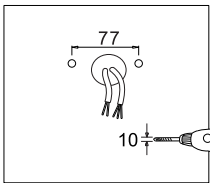

Figure 16
3. YOKE MOUNTING (YM)
- Step 1: Drill holes on the wall as shown. (Figure 16)